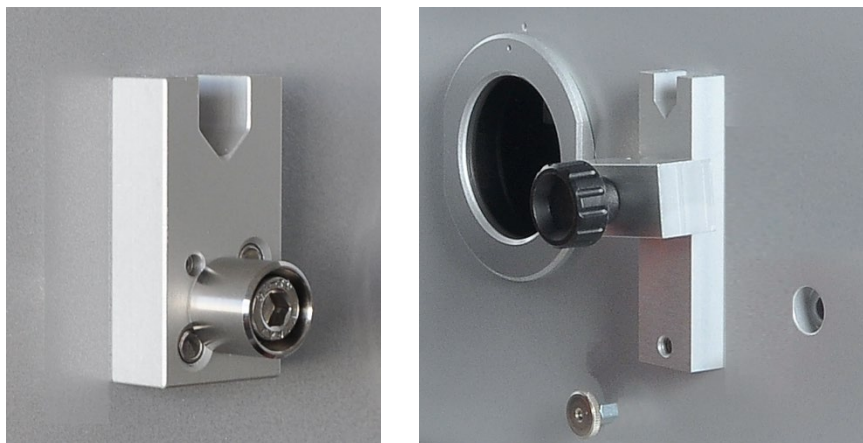

Figure 12 Mounting the suspension bolt and clamp in the sample chamber
1. In the sample chamber of the AAS screw the suspension bolt (→ Figure 12) to the left-hand suspension of the AS-GF using a hexagon socket wrench (size 4).